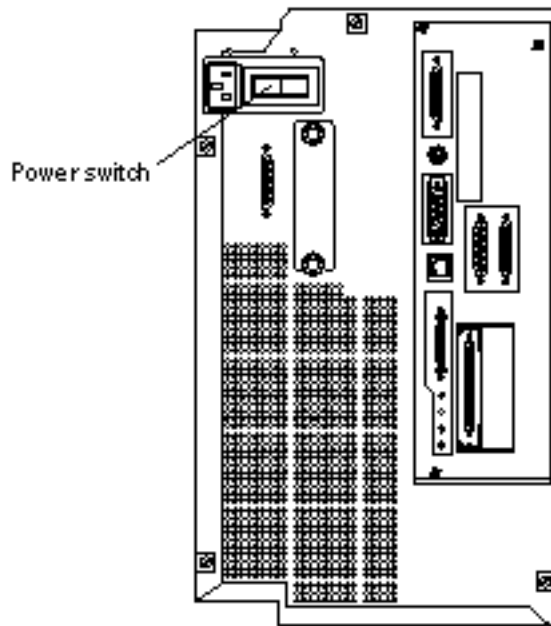

Figure 1-20 Netra 150 Server Power Switch
5. **Locate the power switch at the rear of the Netra 150 server (Figure 1-20).**